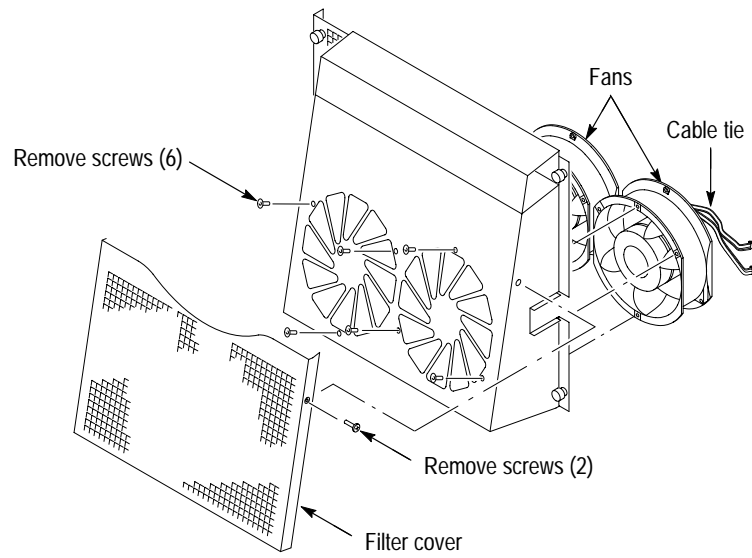

Figure 8-5: VX1410A—Removing the fans
8. VX1410A: Remove the three 6-32 screws (with a pozidriv tip) that secure each fan to the inside of the fan assembly as shown in Figure 8-5.